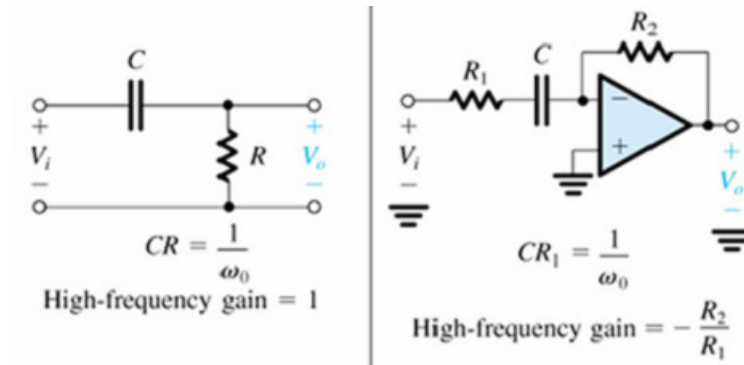

Figure 5.2: First-order high pass filters; left: passive filters; right: active filters.
8. Switch the potentiometer with the capacitor, thus obtaining the passive high-pass filter from figure 5.2. Vary the resistance of the potentiometer to eliminate the low frequency oscillation, without altering the high frequency oscillation.